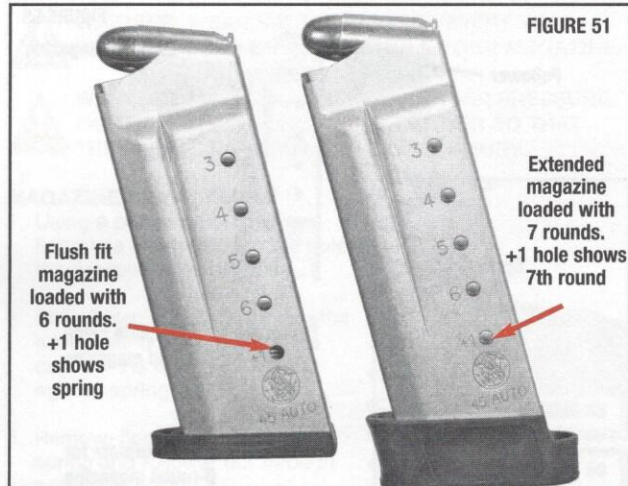

FIGURE 51
- The M&P® 45 SHIELD™ pistol ships with 2 magazines (FIGURES 48-50). The magazine with the flush fit floorplate holds six rounds. The magazine with the extended floorplate will hold 7 rounds of ammunition. The magazine tubes are the same for both. FIGURE 51 shows how a fully loaded magazine will appear for each.